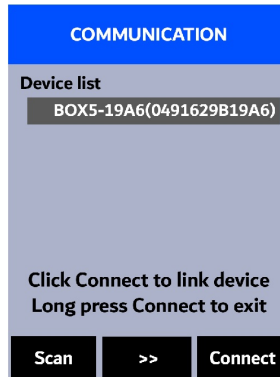

Figure 12.
5. Discoverable devices will begin to populate on the display with their name and MAC-Address (Figure 12).